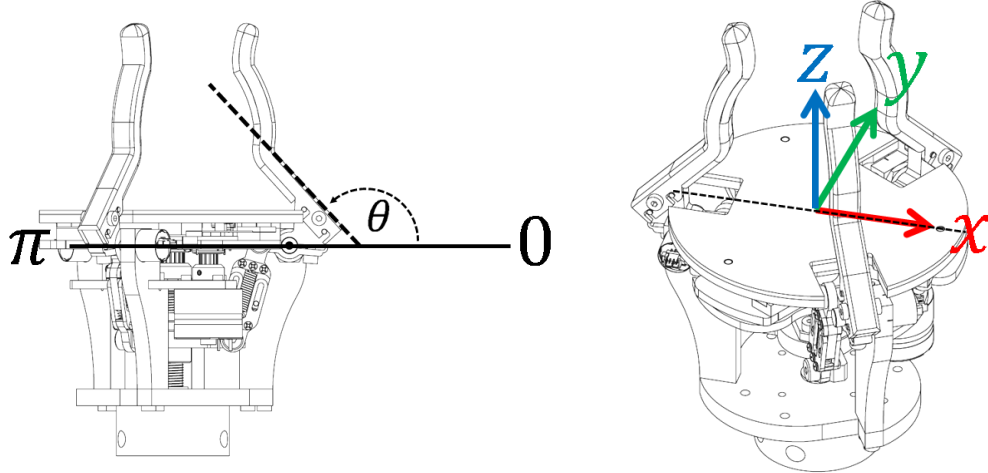

Figure 2: Finger angles and palm frame
- **Finger Angle:** The angle a finger makes with respect to the hand. As shown in Figure 2, 0 corresponds to the finger being wide open, $\pi/2$ corresponds to the finger being straight up, and π corresponds to the finger being parallel with the palm. Normal values will be around $(\pi/2, \pi)$.
- **Palm forces and torques:** We can measure planar torques and the normal force using our force sensing palm. As shown in Figure 2, the x -axis corresponds to the vector drawn from the center of the palm out towards the center of the motor (exactly opposite of a finger). The z -axis points outwards, and the y -axis is specified using the right-hand rule. When we report torques, they will be about the x and y axes, and when we report the normal force, it will be in the $-z$ direction.